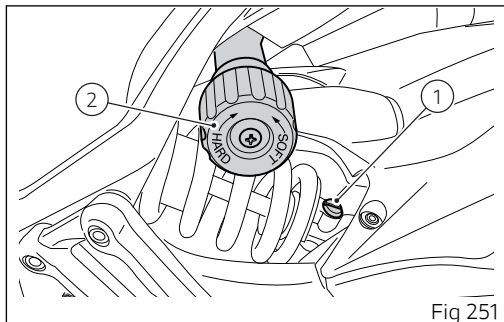

Fig 251
The adjuster (1, Fig 251), located on the lower mount which fastens the shock absorber to the swinging arm, adjusts the damping during the rebound phase (return).
The knob (2, Fig 251) located on the left side of the motorcycle, adjusts the preload of the shock absorber external spring.
To reach adjuster (3) it is necessary to remove the rider seat and cover (4) next to the battery. It is possible to work on adjuster (3) through the opening on the battery support. Turn adjusters (1, Fig 251) and (3) or knob (2, Fig 251) clockwise or counterclockwise respectively to stiffen or soften the damping or the preload.
- loosen adjuster (1, Fig 251) by 9 clicks;
- 18 turns of knob (2, Fig 251) from fully open (0.16 in (4 mm) preload);